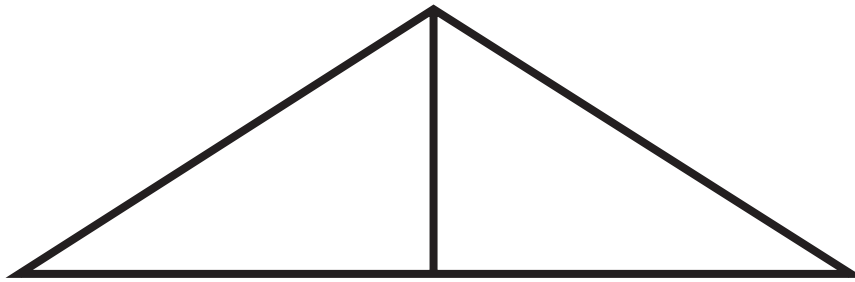

Fig. 1
- 2 Fig. 1 shows a design for a roof truss.
Add sketches and labels to Fig. 1 to show how the truss could be reinforced using gusset plates to enable it to carry load more effectively. [3]